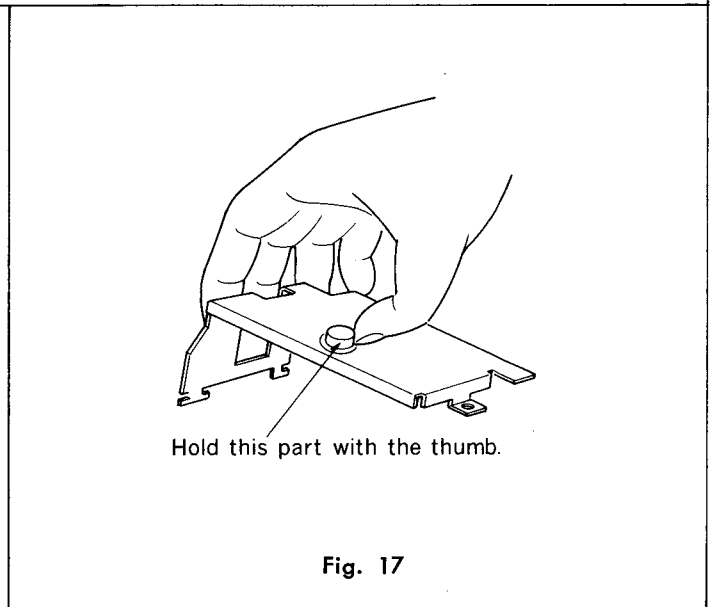

Fig. 17
2. Hold the thrust retainer with the thumb as shown in fig. 17.